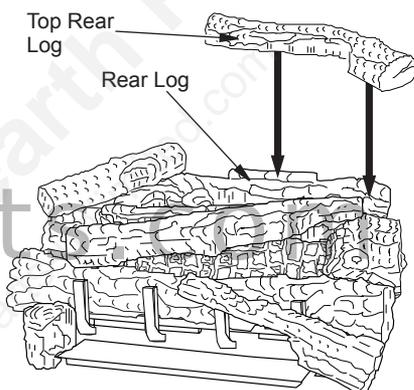

**Figure 42 - Installing Left Top Log**
9. Place the left top log onto the rear log and the left middle log. Make sure to place the projection on the bottom of the left top log into the recessed areas on the rear and left middle logs (see Figure 42).